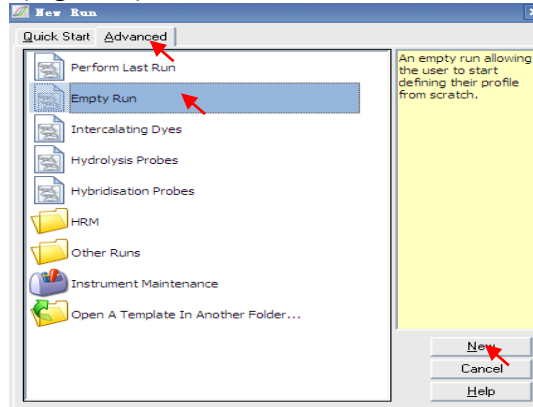

Figure 1
1. Log into Rotor-Gene Series Software, choose “Advanced”, select “Empty Run” and then click on “NEW” (Figure 1).